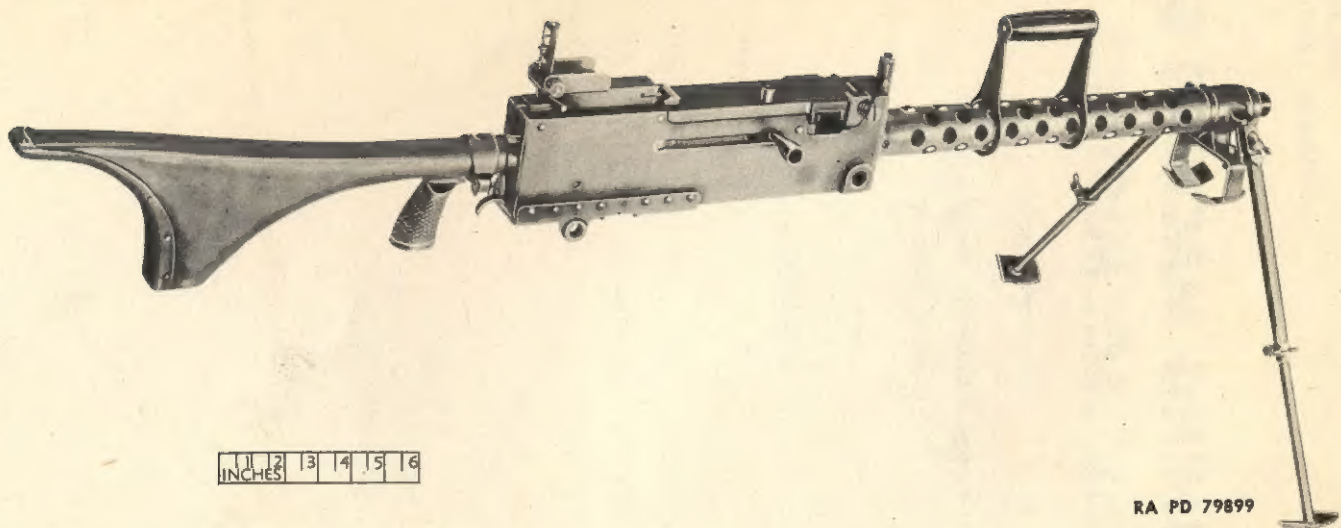

Figure 1 — Browning Machine Gun, Cal. .30, M1919A6—Right Side View
2. DESCRIPTION AND CHARACTERISTICS (figs. 1, 2, and 3).